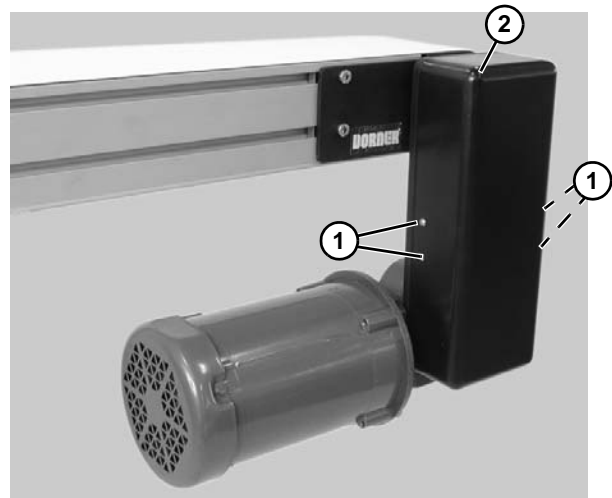

Figure 79
- b. Remove four (4) screws (**Figure 79, item 1**) and remove cover (**Figure 79, item 2**).